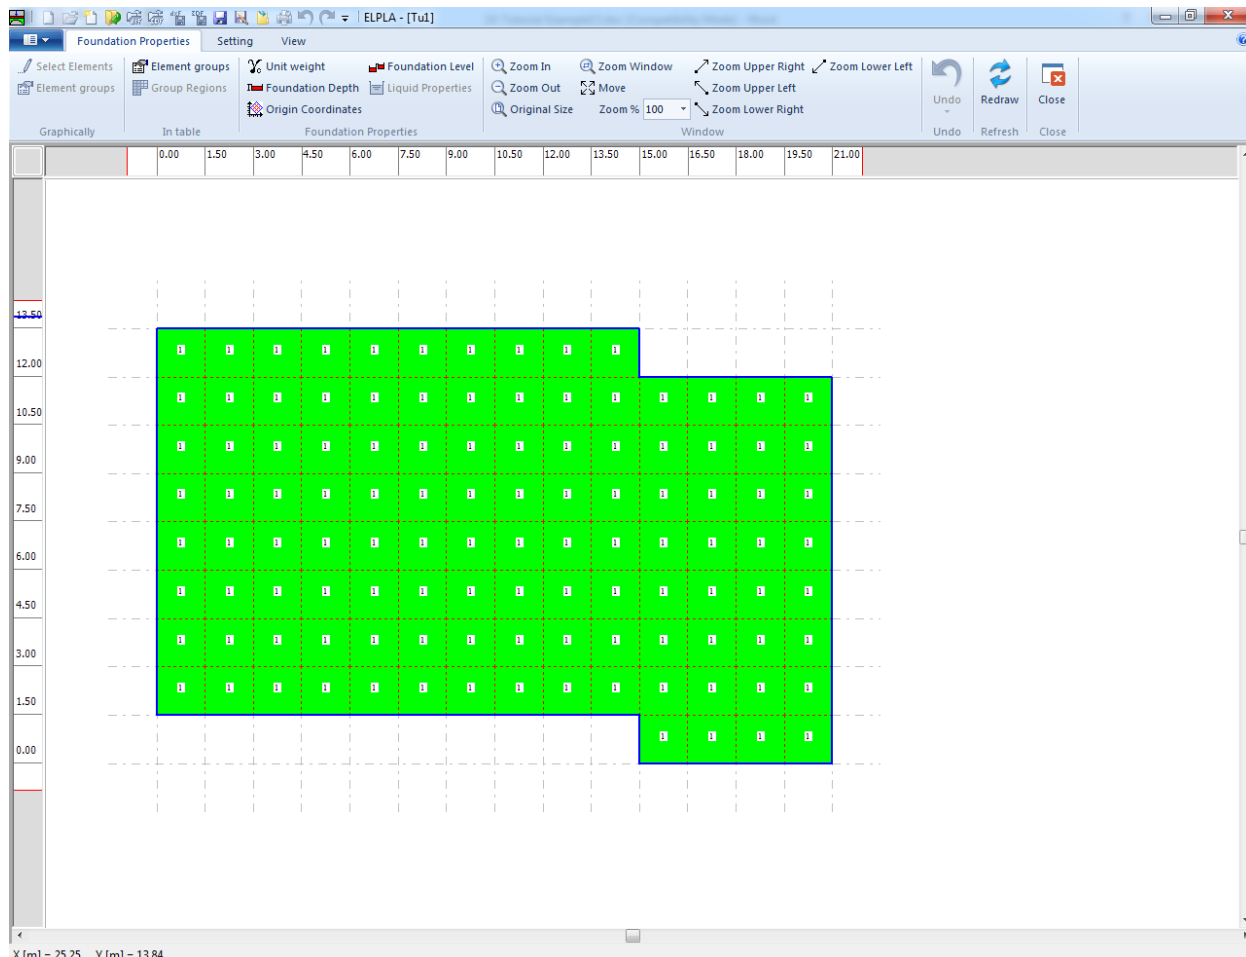
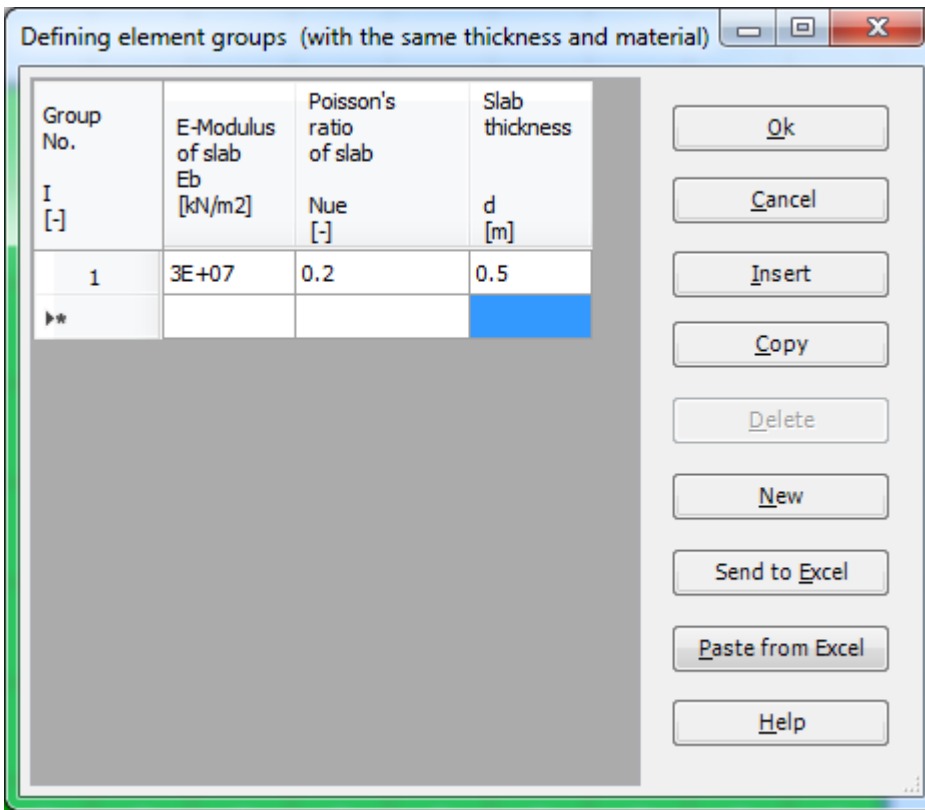
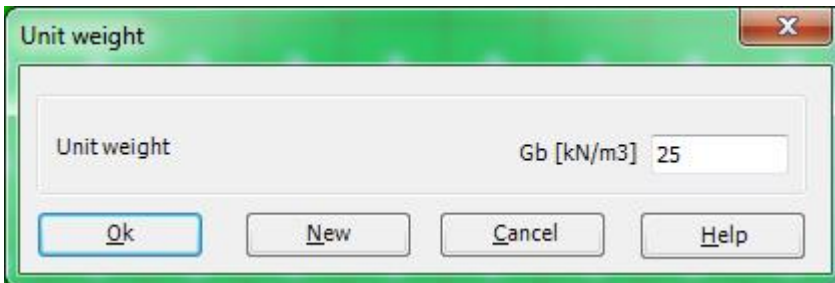
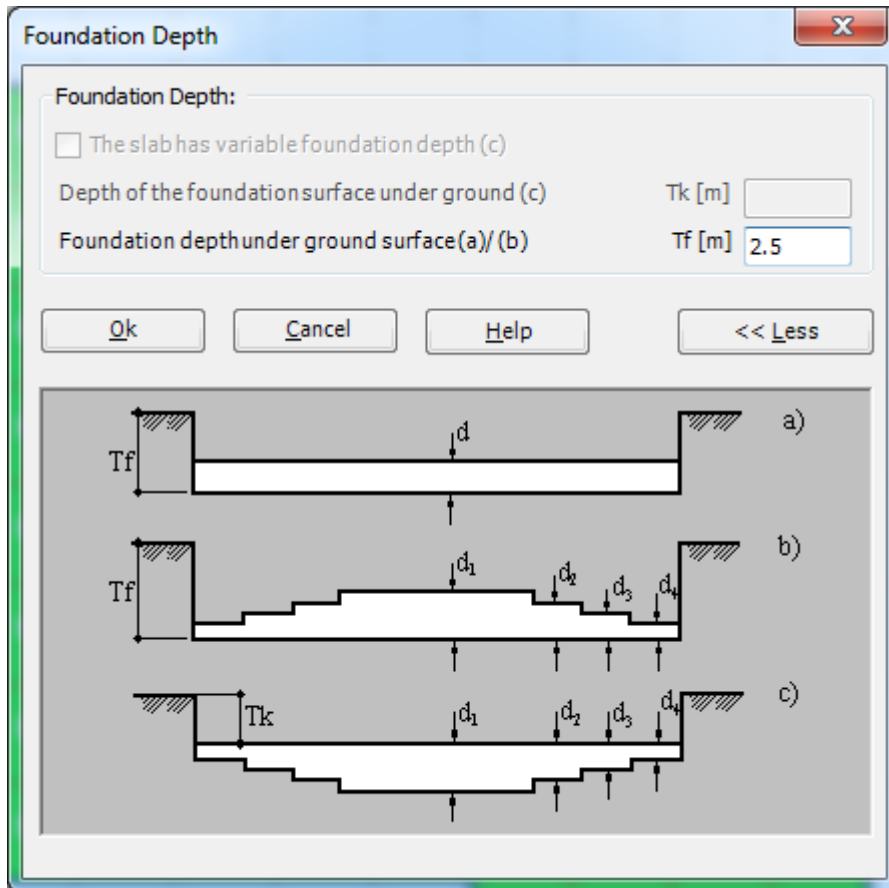

Figure 13.27 "Foundation properties" window
Figure 13.28 "Defining element groups" list box
Figure 13.29 "Unit weight" dialog box
Figure 13.30 "Foundation Depth" dialog box
To define the foundation properties, choose "Foundation Properties" command from "Data" Tab. The following Window in Figure 13.27 appears with default foundation properties. The data of foundation properties for the current example, which are required to define, are foundation material, foundation thickness and foundation level. Any other data corresponding to foundation properties in the program menus are not required. Therefore, the user can take these data from the default foundation properties.
- Choose "Element groups" command from "Foundation properties" menu in the window of Figure 13.27. The following list box in Figure 13.28 with default data appears. To enter or modify a value in this list box, type that value in the corresponding cell then press "Enter" key. In the list box of Figure 13.28, enter E-Modulus of the foundation $E_c = 3E + 07$ [kN/m²], *Poisson's* ratio of the foundation $\nu_c = 0.2$ [-] and foundation thickness $d_c = 0.5$ [m]
- Choose "Unit weight" command from "Foundation properties" menu in the window of Figure 13.27. The following dialog box in Figure 13.29 with a default unit weight of 25 [kN/m³] appears; let this value as given to take the own weight of the foundation in consideration in the analysis
- Choose "Foundation Depth" command from "Foundation Properties" menu in the window of Figure 13.27. The following dialog box in Figure 13.30 appears
- Choose "Save" command from "File" menu in Figure 13.27 to save the foundation properties
- Choose "Close" command from "File" menu in Figure 13.27 to close the "Foundation properties" Window and to return to ELPLA main window